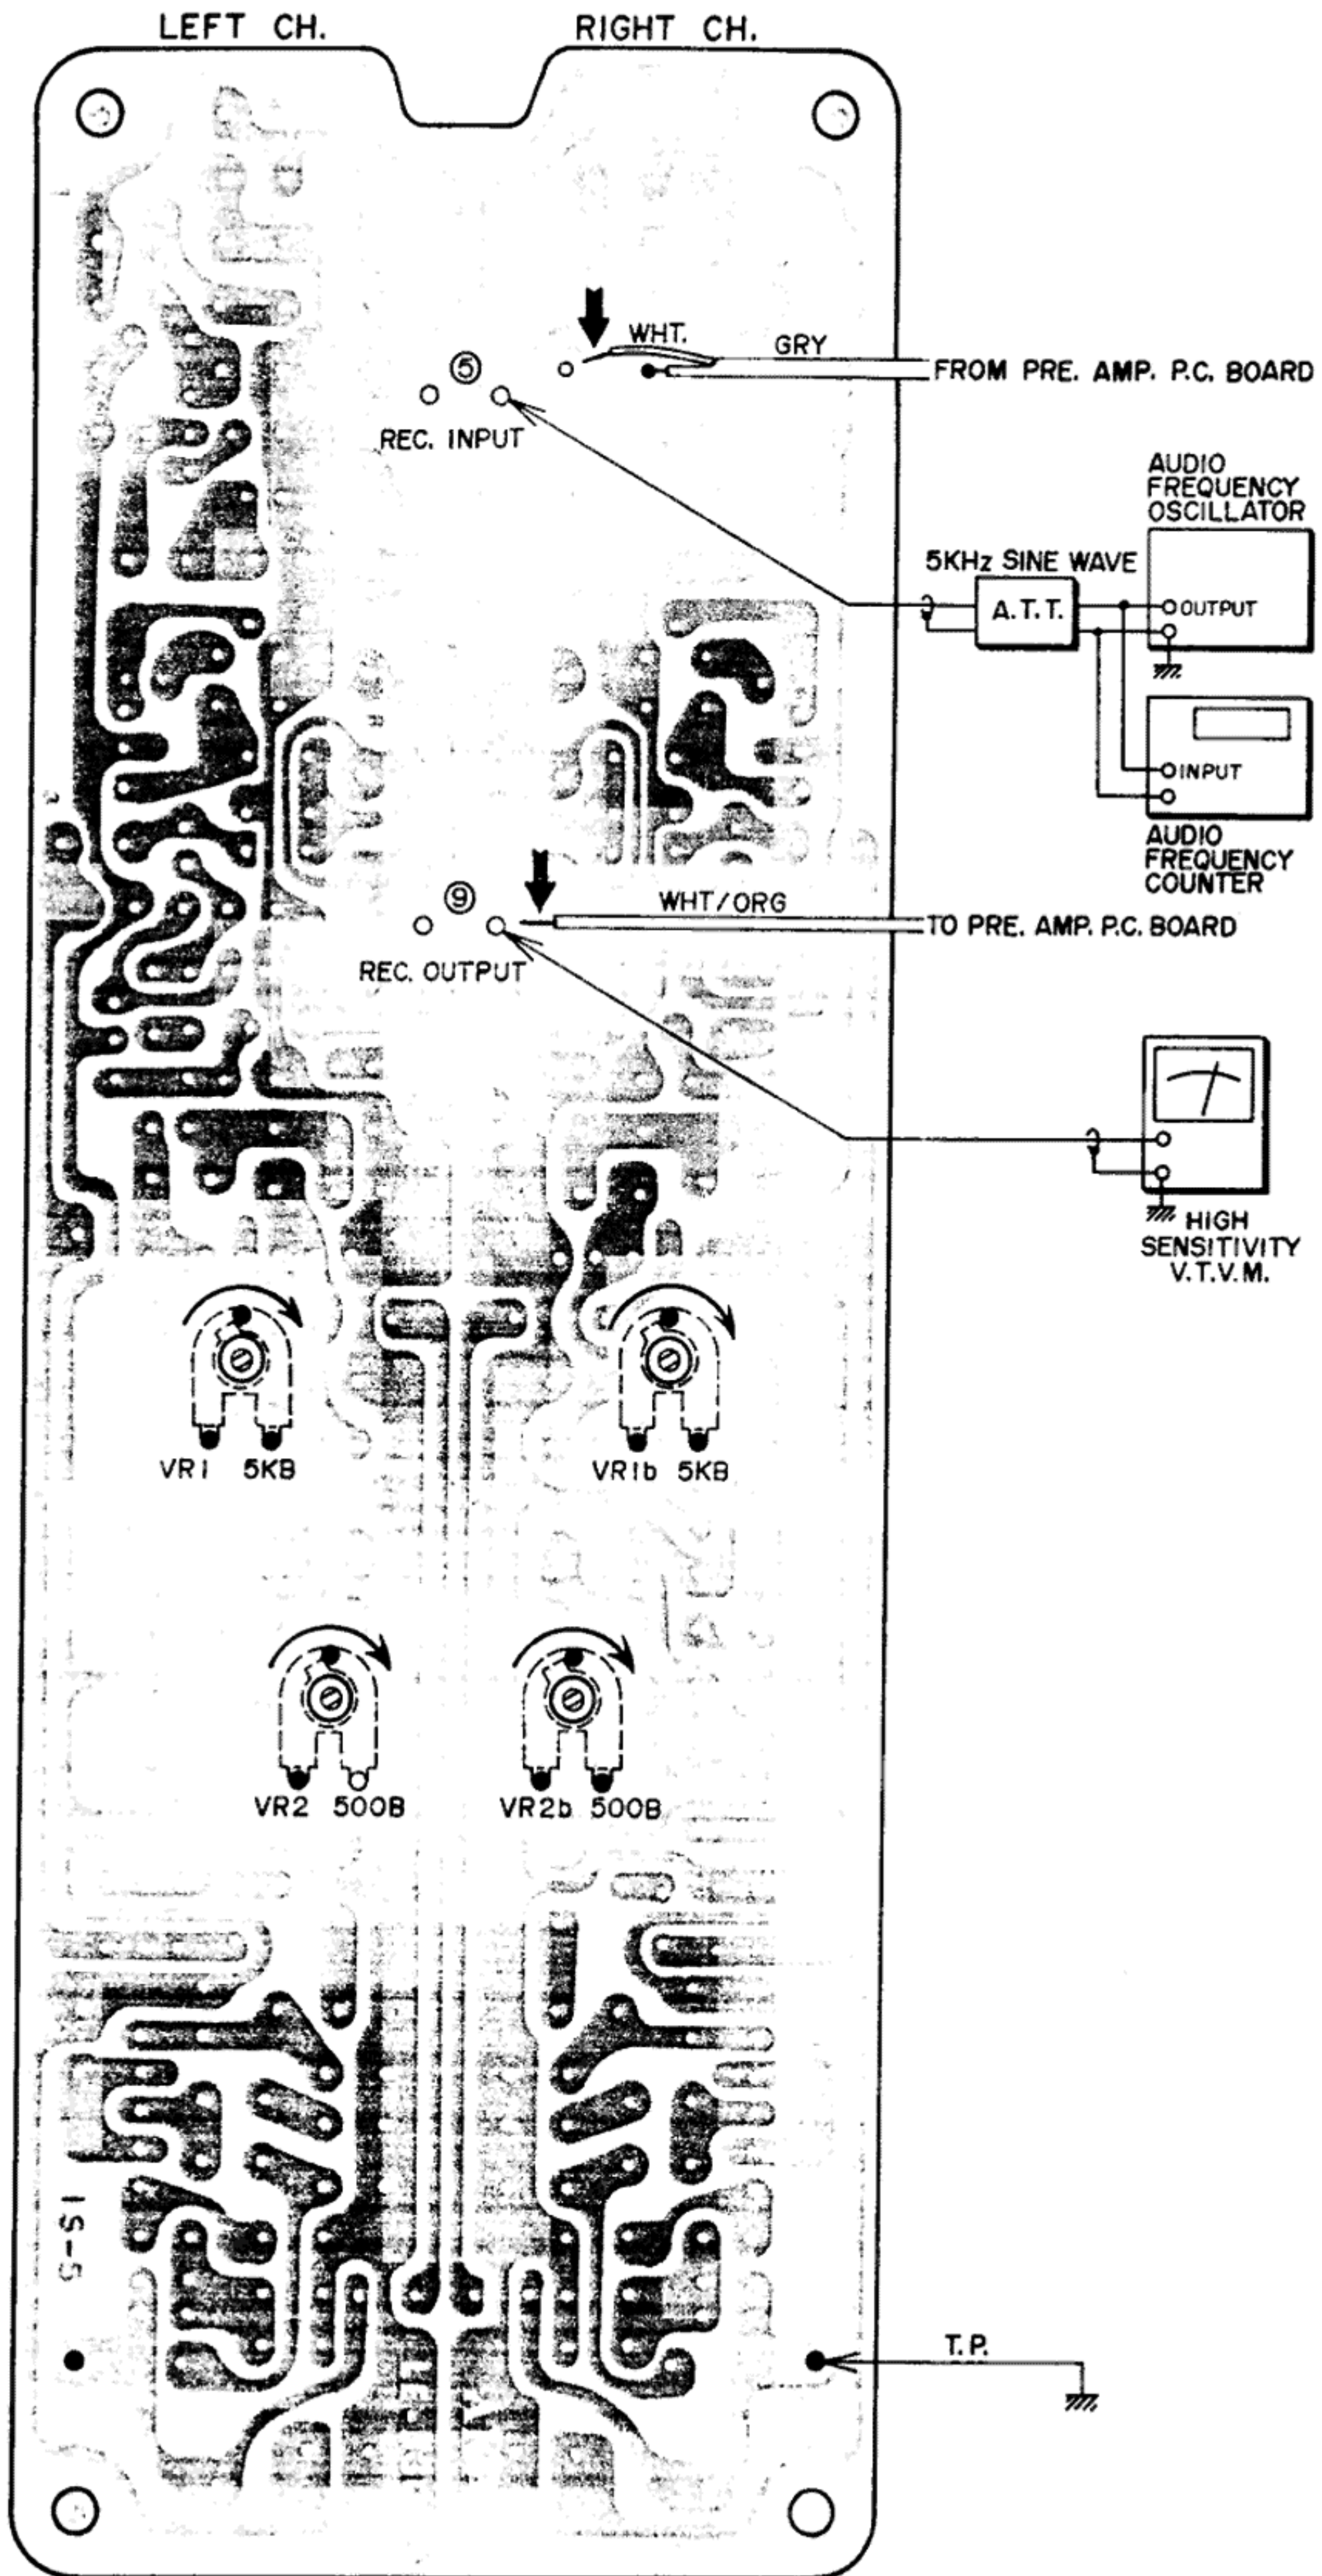

Fig. 24
1. RECORDING DOLBY NR CIRCUIT ADJUSTMENT (See Figs. 24 and 25)
Prior to adjustment, disconnect the wiring (indicated by arrow mark in Fig. 24) from Dolby Circuit recording input ⑤, and recording output ⑨. Then connect an Audio Frequency Oscillator to recording input ⑤ and connect a High Sensitivity V.T.V.M. to recording output ⑨.